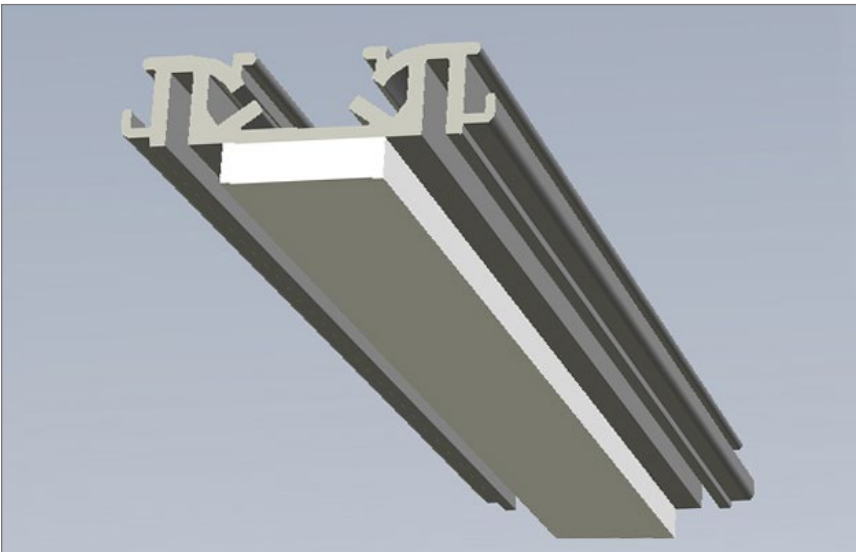

Figure 11: Base Track enhancement.
STEP 7: Apply 1/4" thick x 1" wide (6mm x 25mm) CSF tape applied continuously to underside of base track (see Figure 11). CSF tape inserts are required at all frame to frame, and frame to base building connections above and below Zipper ends, or where light gaps appear. Where there's light penetration, there's sound loss.